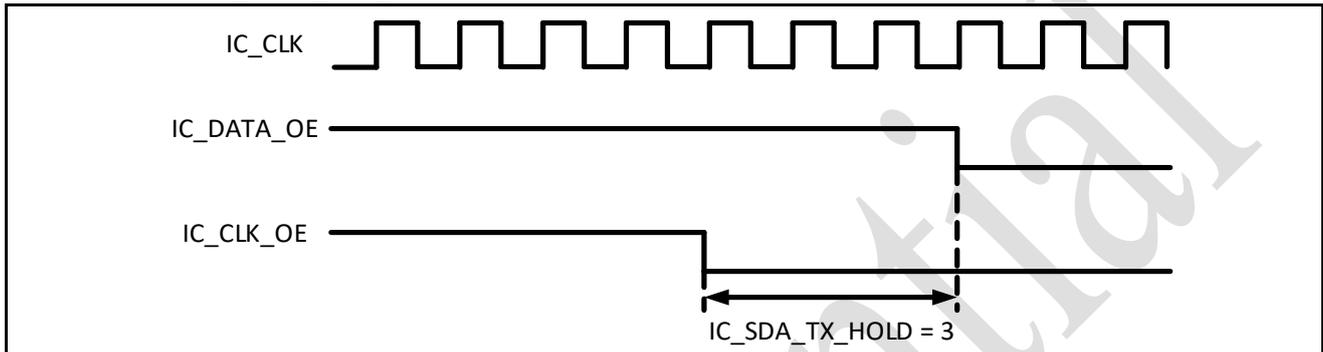

Figure 4-86 I2C Master Implementing tHD:DAT with IC_SDA_HOLD = 3
- Figure 4-86 shows the tHD:DAT timing generated by the I2C operating in Master Mode when IC_SDA_TX_HOLD = 3.